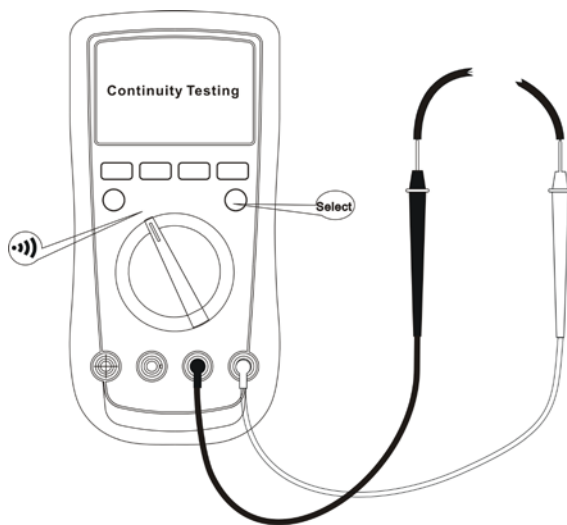

Figure 8
E. Continuity Testing (see figure 8)